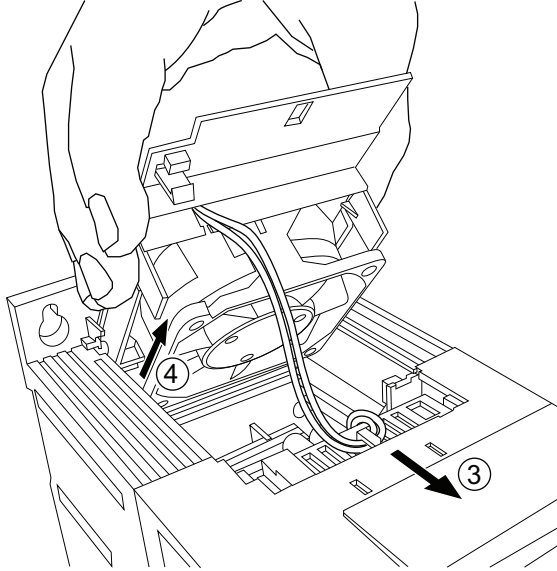

Fig. 52 — Remove Fan Holder and Free Fan Cable
3. Free the fan cable from the clip in the drive frame (see Fig. 52).
4. Lift the holder from the hinges (see Fig. 52).